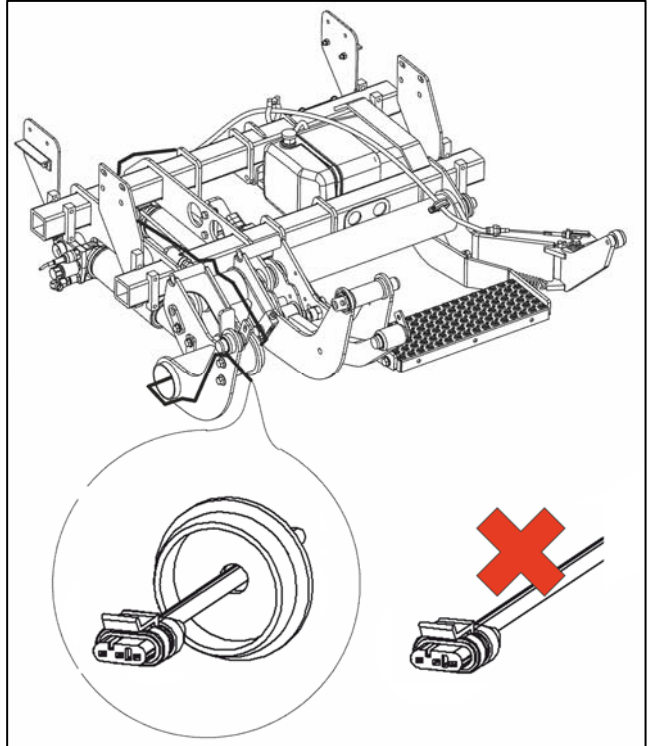

Fig. 15
- Route the Control Unit cable for platform connection (white plastic cover) to the swing-arm assembly in the center of the vehicle (Fig. 15).